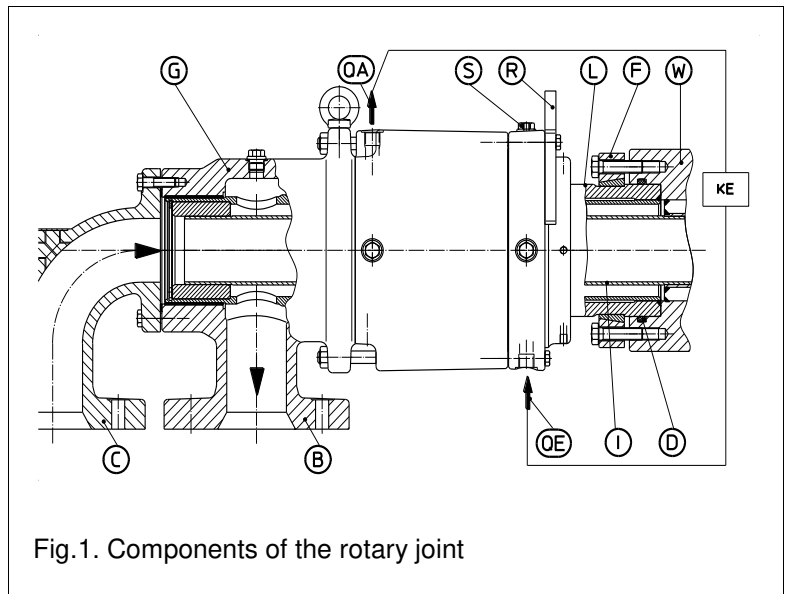

Fig. 1. Components of the rotary joint
- If the bearings in the rotary joint are to be monitored, connect a vibration pickup to sensor plug "S" (female thread M6x1; see fig. 1 on page 3).